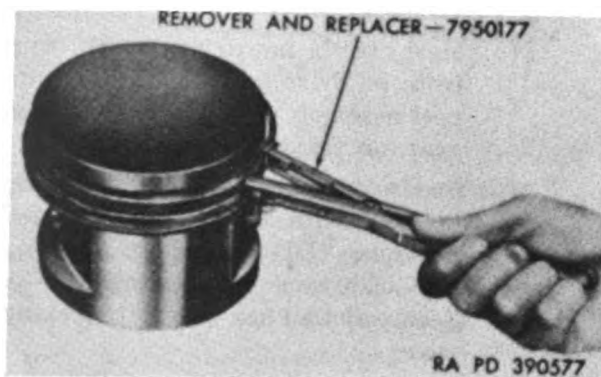

Figure 73. Removing or installing piston rings.
a. Place jaws of remover and replacer 7950177 (fig. 73) in end gap of piston ring. Spread ring, lift out of groove, and remove from piston. Mark ring as to location on piston.
- (1) Inspect compression rings (A) and oil control rings (B) for scuffing, scoring, chipping, scratches, or abrasions, particularly those rings which were found to be sticking in grooves.
- (2) Check side clearance of rings in piston grooves as described in (a) through (e) below.
- (a) Insert remover and replacer 7950177 (fig. 73) in end gap of ring and install ring in same groove on piston from which it was removed in paragraph 96. Install all four rings in this manner.
a. Install piston pin (G) in bore of piston (D). Center pin in piston and install a piston pin plug (C) in each end of piston pin.
c. Check markings on oil control rings (B) and install rings in same lower grooves in piston from which they were removed in paragraph 96. Install rings with remover and replacer 7950177 (fig. 73) as described in paragraph 98. Use care in installing rings to avoid damaging the ring lands or distorting the rings.
d. Check markings on compression rings (A) and install rings in same upper grooves of piston from which they were removed. Install rings in the same manner as described for oil control rings in c above.
f. If piston (D) is being replaced, check marking on bottom of piston boss, accessory end. Mark new piston with the same marking found on old piston.